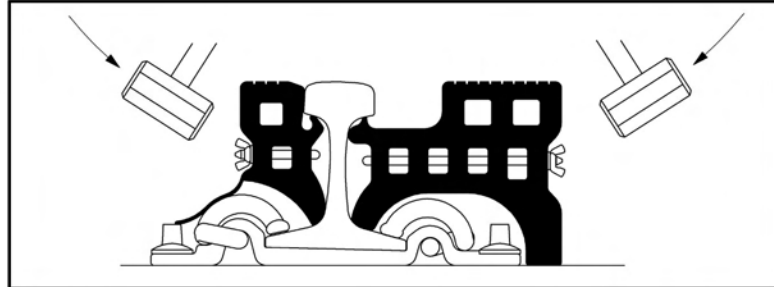

Figure 2
- 2 Place and seat Railseal into web of rail with a sledge hammer (Fig. 2)